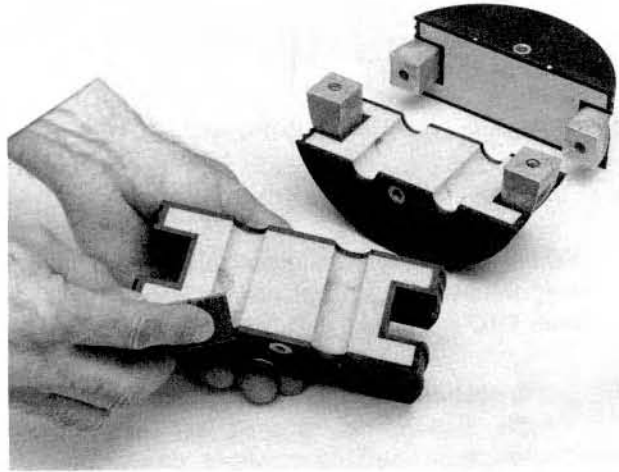

Figure 10
5.13 Use emery cloth provided to remove sharp edges on plastic and foam in area of opening. Figure 10. **Scuff lightly. DO NOT REMOVE TOO MUCH MATERIAL.**